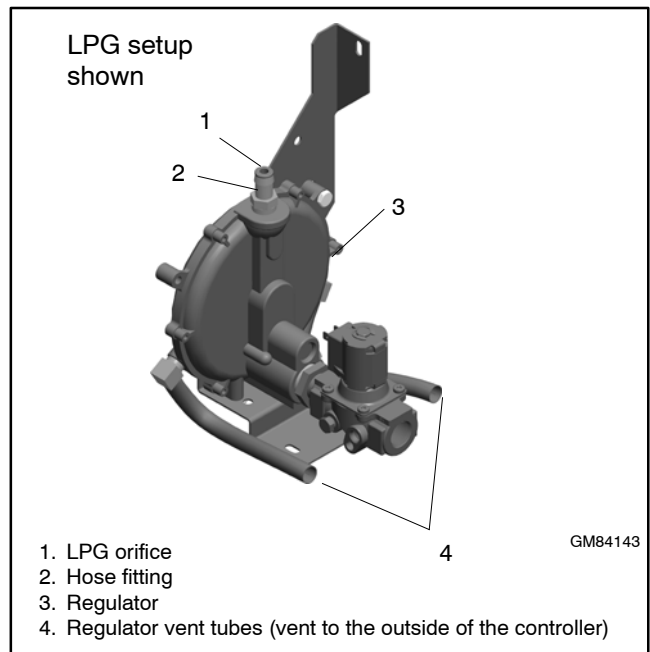

Figure 1-13 Fuel Regulator and LPG Orifice, 20RESA/RESAL
For LPG fuel, an orifice is used in the fuel line. The unit is typically shipped set up for natural gas, with the loose orifice tied near the fuel solenoid valve. To convert to LPG, install the LPG orifice as described below. See Figure 1-13 for the fuel system component locations.
5. Remove the hose clamp and fuel hose from the hose fitting. See Figure 1-13.
6. Insert the LPG orifice into the hose fitting. See Figure 1-13.